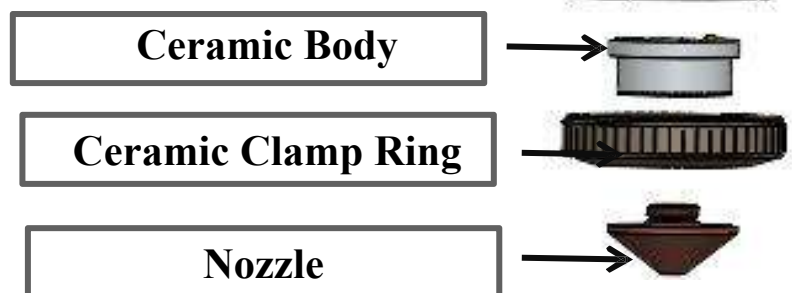

Figure 5.0
- ① Dry and clean auxiliary gas should be used when cutting. If there is water, oil and other impurities in the gas, mutations may occur at working clearance, and even cause work disorder of the sensor. It is suggested to use high purity oxygen and configure the gas dryer, oil-water separator and other devices.
- ② The sensor after being defaced should be cleaned with clean and dry cotton cloths, etc. Do not use liquid to clean the cutting head and ceramic, and then connect and assemble it properly after cleaning.
- ③ The ceramic body can be replaced after being damaged. After ceramic body is replaced, an initialization of electrical system together with the amplifier should be conducted through a reset operation.
- ④ The shape and size of the cutting nozzle would directly affect the characteristics of the sensor. Therefore, specified cutting nozzle must be used.
- ① Remove the nozzle counterclockwise, as shown in Figure 5.0.
- ② Unscrew the ceramic clamp ring counterclockwise, as shown in Figure 5.0.
- ③ Remove the ceramic body vertically downward, as shown in Figure 5.0.